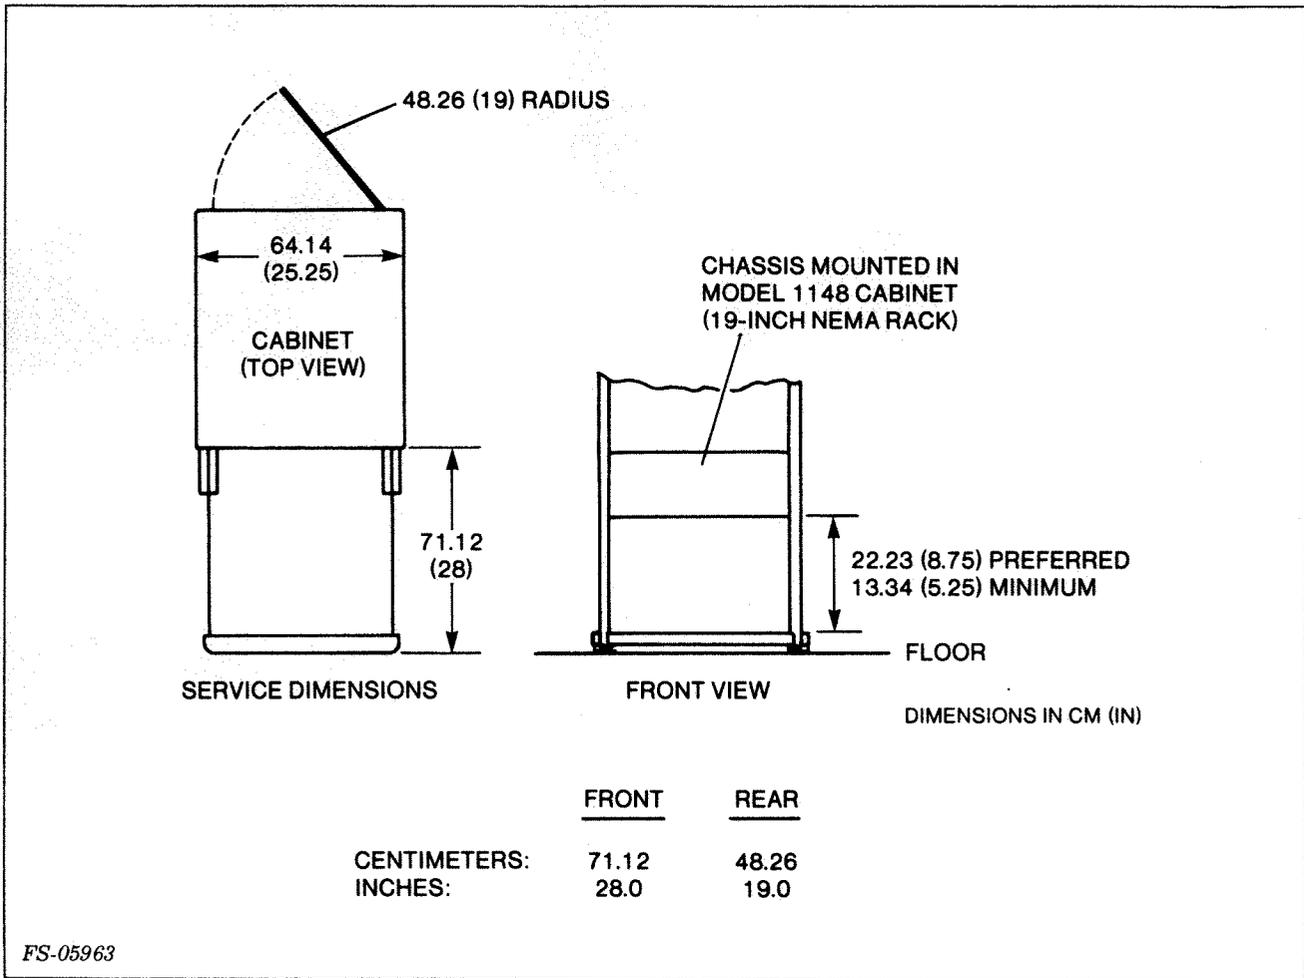

Figure 6-1. Service Clearance
Table 6-1 provides the site preparation requirements. Figure 6-1 shows the equipment service clearance requirements.
8. Determine the height that the drive is to be mounted at (see Figure 6-1 for service clearance) and mount the two rack slide rails as shown in Figure 6-6. Chassis slides must be mounted a minimum of 45.72 cm (18 in) off the floor for bottom service clearance.